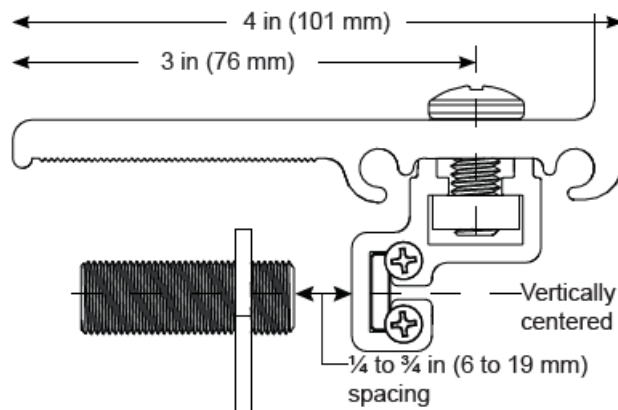

Figure 7. Align Dual Limit Sensor and Limit Flag
11. Make sure the dual limit sensor is vertically centered on the limit flag face (Figure 7).
12. Set dual limit sensor spacing: loosen the two nuts (11/16 in) on the dual limit sensor, adjust the spacing between the dual limit sensor and stop limit flag face to 1/4 to 3/4 in (6 to 19 mm), and tighten the nuts to hold this spacing (Figure 7).